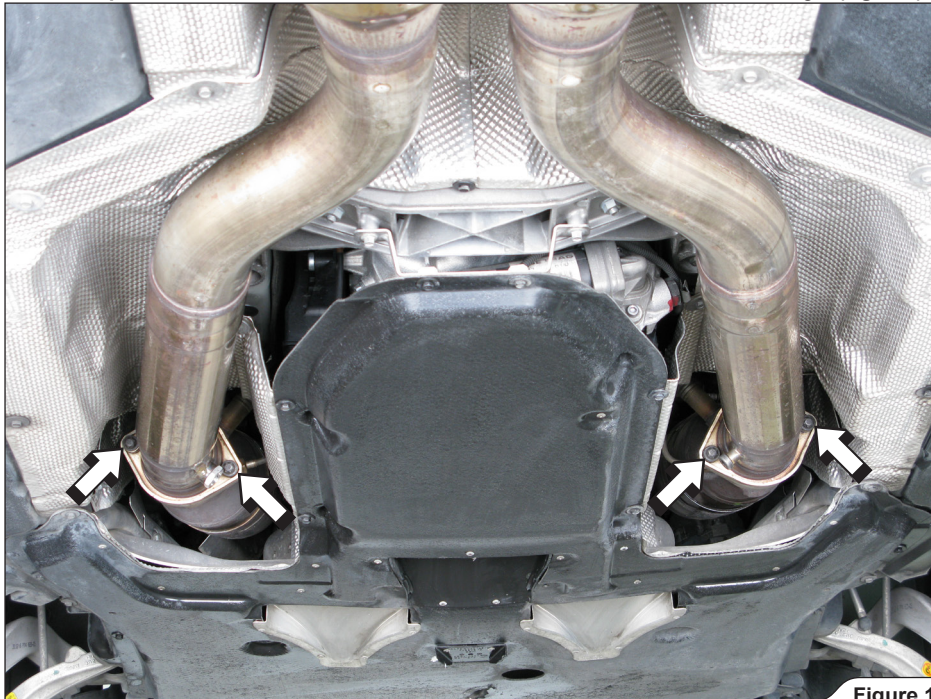

Figure 1
1. For Slip-On and Evolution: unscrew the marked M8 bolts and nuts from stock header flanges (**Figure 1**).